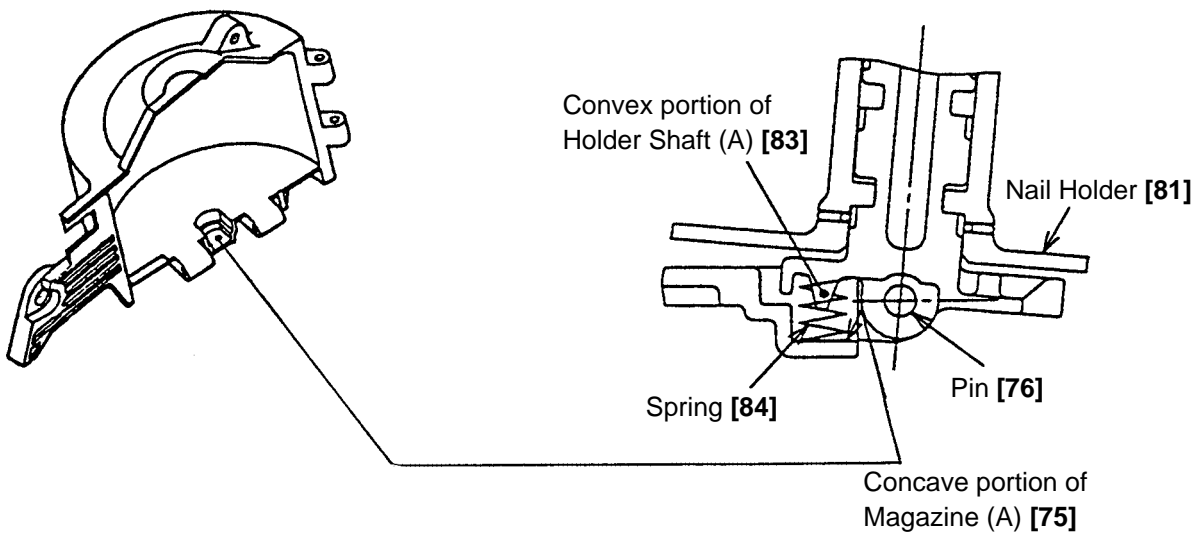

Fig. 20
- Mount O-ring (P-9) [62] to the top groove of Holder Shaft (A) [83].
- When mounting Holder Shaft (A) [83] to Magazine (A) [75], check that the Spring [84] is inserted between the concave portion of Magazine (A) [75] and the convex portion of Holder Shaft (A) [83] and then insert the Pin [76]. (See Fig. 20.)
- The Nail Holder [81] tilts when opening Magazine Cover (A) [78].
- The Nail Holder [81] housed in Magazine (A) [75] smoothly when closing Magazine Cover (A) [78].